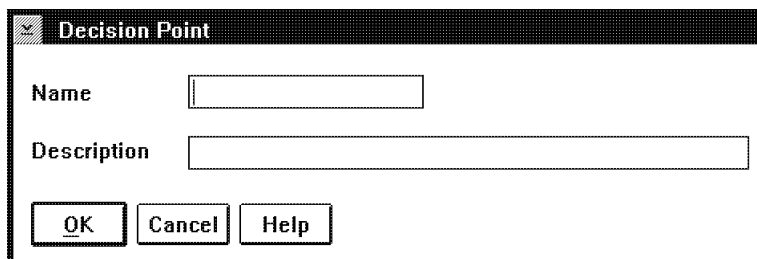

Figure 32. Decision Point Window
1. Double-click mouse button 1 on the decision point node in the work process diagram. You see the Decision Point window shown in Figure 32.